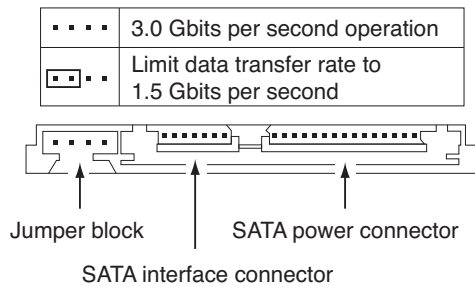

Figure 3. Serial ATA connectors
- Install a jumper as shown in Figure 3, page 22 below to limit the data transfer rate to 1.5 Gbits per second (and leave the drive connected to the SATA-equipped motherboard or host adapter that doesn't support autonegotiation) or
- Install a SATA host adapter that supports autonegotiation, leave the drive jumper block set to “Normal operation” (see Figure 3, page 22 below), and connect the drive to that adapter. This option has the benefit of not limiting the drive to a 1.5 Gbits/sec transfer rate.